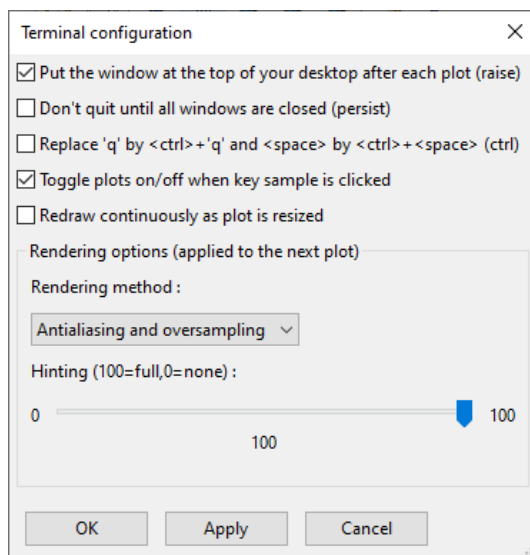

Fig. 5.3: Gnuplot configuration window.
- Open a *gnuplot* configuration window similar to that in Fig. 5.3 .